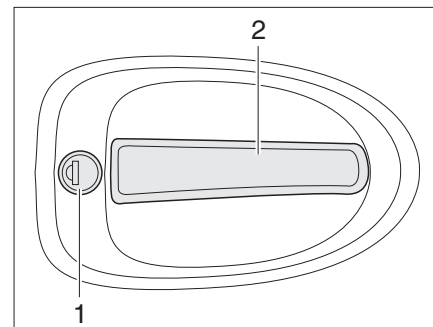

Fig. 23 Door lock of conversion door, outside
- ▶ Insert the key into locking cylinder (Fig. 23,1) and turn until the door lock is unlatched.
- ▶ Pull the door handle (Fig. 23,2). The door is open.
- ▶ Insert the key into locking cylinder (Fig. 23,1) and turn until the door lock is engaged.